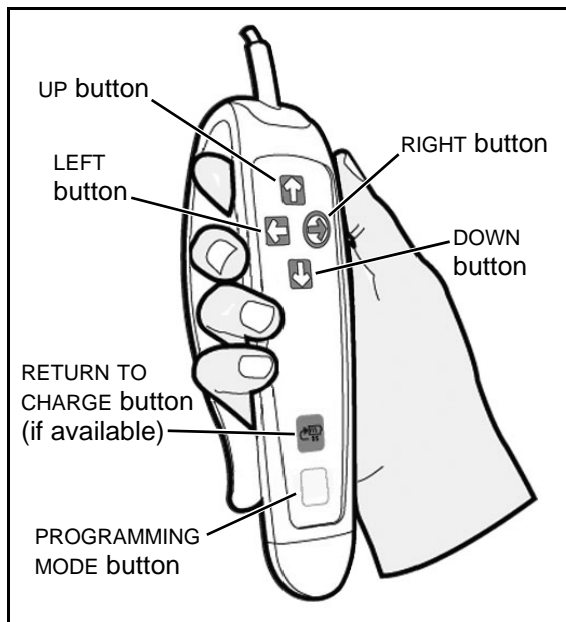

Fig. 5
The Voyager Duo's hand control unit is used to operate the ceiling lift. Each function is described in Fig. 5. The UP and DOWN buttons raise or lower the spreader bar. With the four-function model, the LEFT and RIGHT buttons activate a lateral motor to move the lift along the track. If you have a two-function model, the lift must be moved manually.
The "Programming mode" button allows you to modify the functions of the lift (see Fig. 5). Refer to the "Voyager Duo Programming" section for more information.
- 2) Move the ceiling lift directly over the patient. With the four-function model, use the LEFT and RIGHT buttons on the hand control (see Fig. 5). With the two-function model, simply hold the ceiling lift’s spreader bar and drag it along the track.